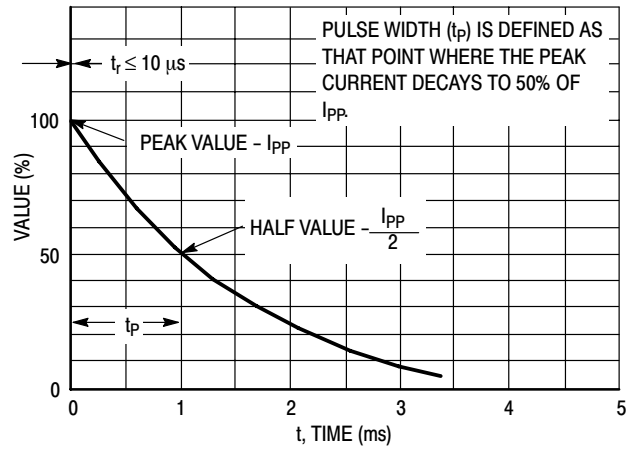
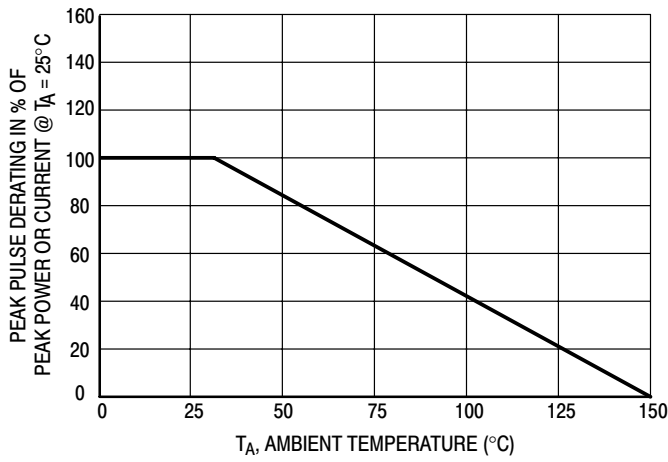

Figure 2. Pulse Waveform
Figure 3. Pulse Derating Curve
6. Surge current waveform per Figure 2 and derate per Figure 3 of the General Data - 600 Watt at the beginning of this group.